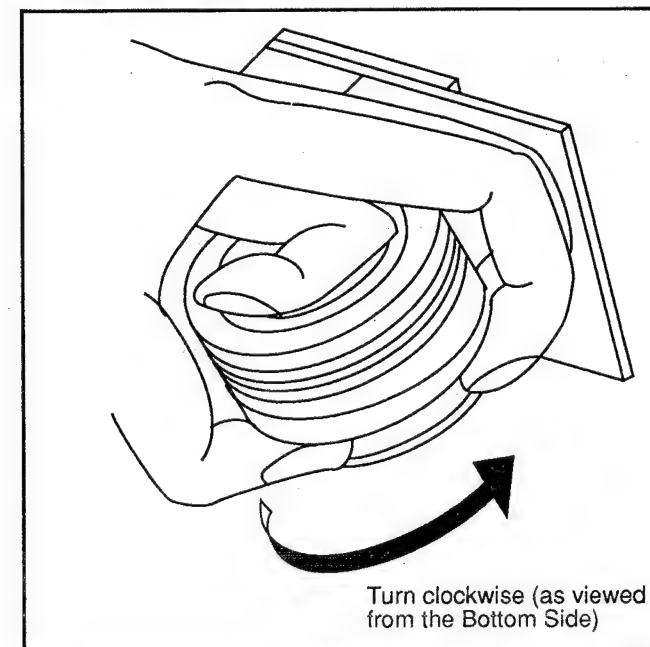

Fig. M5-2
- Reinstall the new projections on the lower surface of the Cylinder Unit to the Fig. M5-2). Hold them as not to touch the Cylinder. If any of them with a deer saturated with Ethanol.
1. Reinstall the new D.D. Cylinder Unit so that the 2 projections on the Cylinder Base meet the 2 holes on the lower surface of the D.D. Cylinder. Then fit the new D.D. Cylinder Unit to the chassis by turning it (refer to Fig. M5-2). Hold the D.D. Cylinder with extreme care so as not to touch the Heads or the tape path on the Cylinder. If any of these parts are touched, then clean them with a deerskin swab (Head Cleaning Stick) saturated with Ethanol.